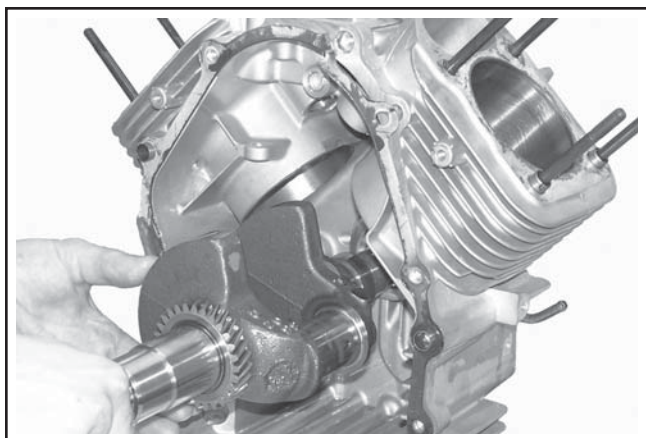

Figure 10-3. Installing Crankshaft.
2. Carefully slide the flywheel end of the crankshaft through the main bearing in the crankcase. See Figure 10-3.